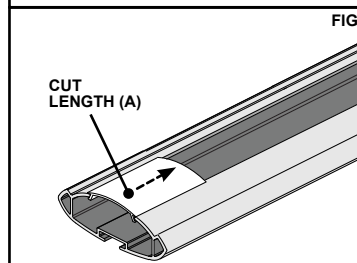

FIG 5
- Place the Cross Bar onto the End Supports ensuring that the End Supports are located into the cutouts on the underside of the Cross Bar. Check that the Cross Bar is over hanging equally on either side (Fig. 5).
3. Slide 'Cut Length (A)' into the gap until it butts up against the end edge of the gap in Figure 5. Do this for all four Cross Bar over-hang endings.